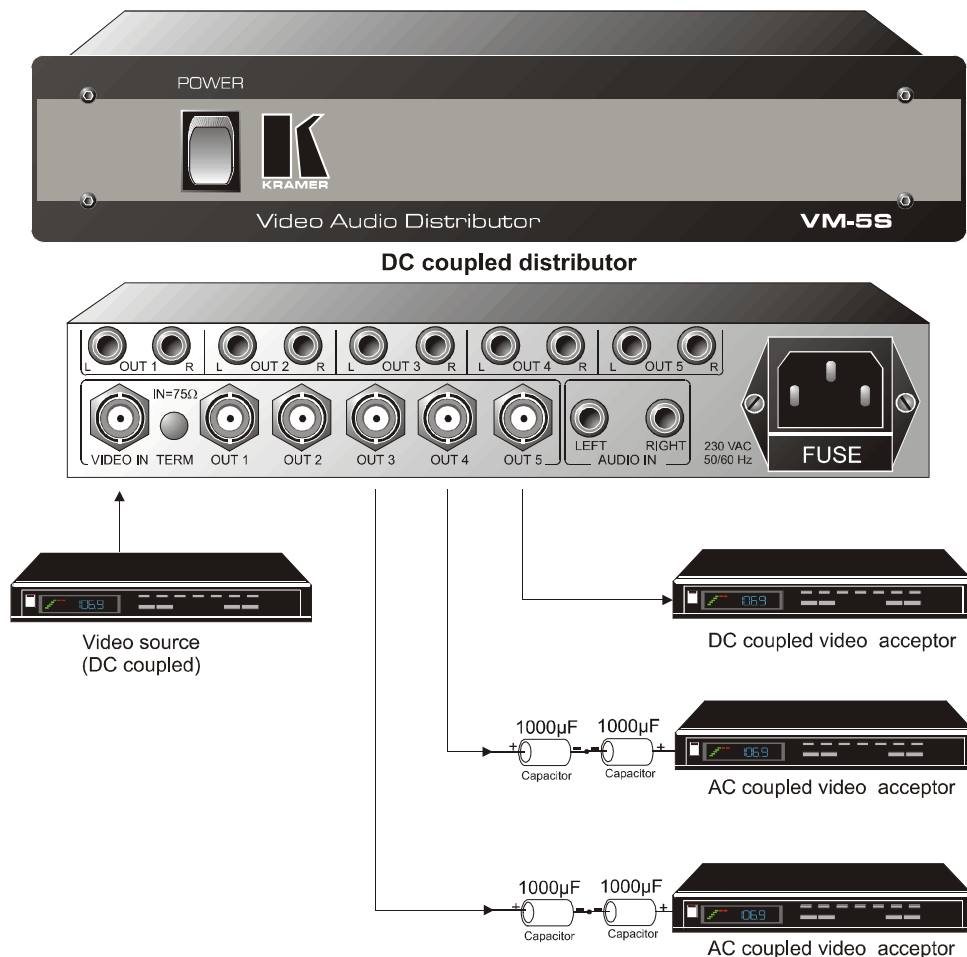

Figure 8: Installing a VM Amplifier In a Mixed AC/DC Video/Audio System
- 3) Connect the acceptors to the outputs of the DA. Connect the DC coupled acceptors directly and connect the AC coupled acceptors via back to back connected  $1000\mu\text{F}/25\text{V}$  capacitors (See Figure 8).